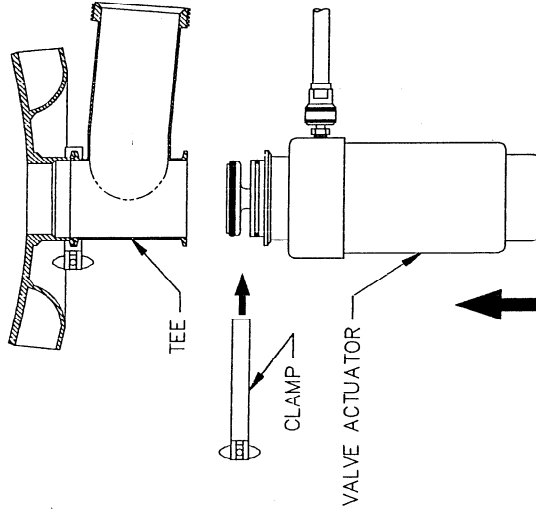

FIGURE 3
5. ATTACH THE VALVE ACTUATOR TO THE TEE WITH CLAMP AS SHOWN IN FIGURE 3.